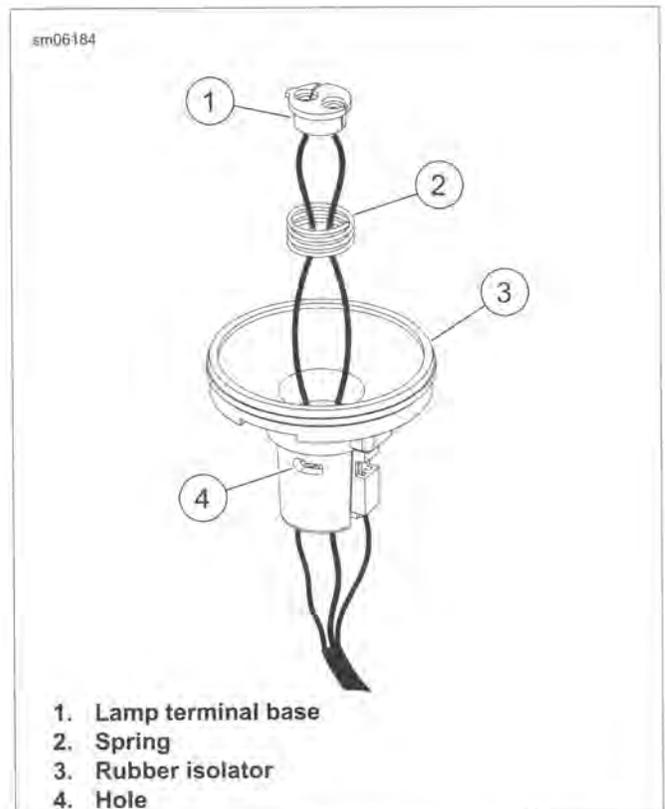

Figure 7-38. Reflector Assembly
- c. See Figure 7-38. Insert a right angle pick or a small hex key from inside the bulb socket through hole (4). Pull reflector from lamp.
- d. Remove rubber isolator (3).